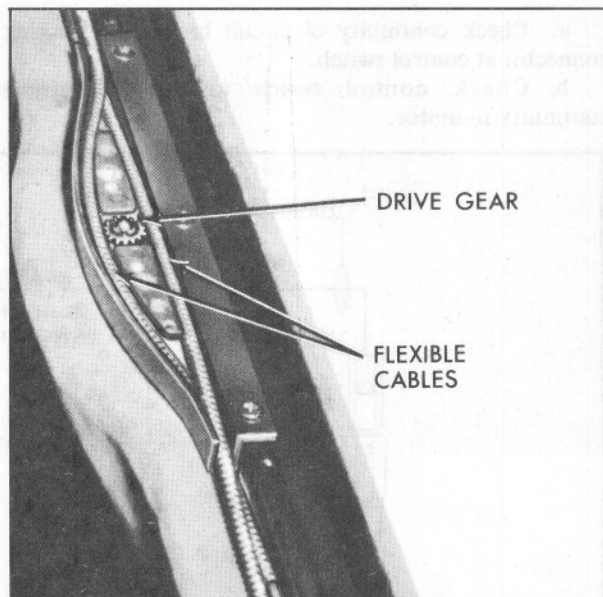
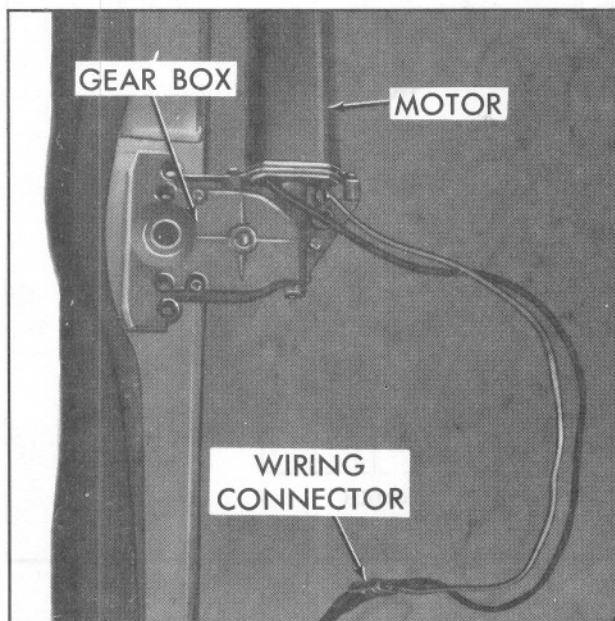

Fig. 15-19 Drive Gear And Cables
Fig. 15-18 Motor And Drive Unit Location
The Sunroof is actuated by a two-way electric motor mounted near the center of the windshield header area, Fig. 15-18. The motor drives an auxiliary unit with a gear on the output shaft. This gear, in turn, drives two flexible gear cables that are attached to the roof panel and control its movement, Fig. 15-19.
Electrical power for the system, Fig. 15-19, is supplied from the fuse block through an orange wire to the 25-amp circuit breaker. Another orange wire is
1. To obtain a flush fit with the roof on one side of front of roof panel, loosen both front slide screws, Fig. 15-19.
5. Carefully pull headlining from front roof inner panel at top of windshield area sufficiently to gain access to Sunroof motor and gear box assembly, Fig. 15-18.